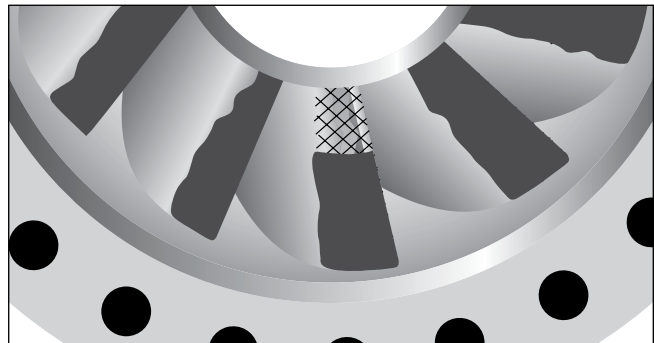

Figure 4. Coat expanded metal with epoxy and smooth out finish
- 3. Apply:** Apply the composite over the expanded metal, forcing the epoxy through the mesh, being careful to avoid air entrapment. Smooth the finish with a thin plastic or metal applicator. (See Figure 4)